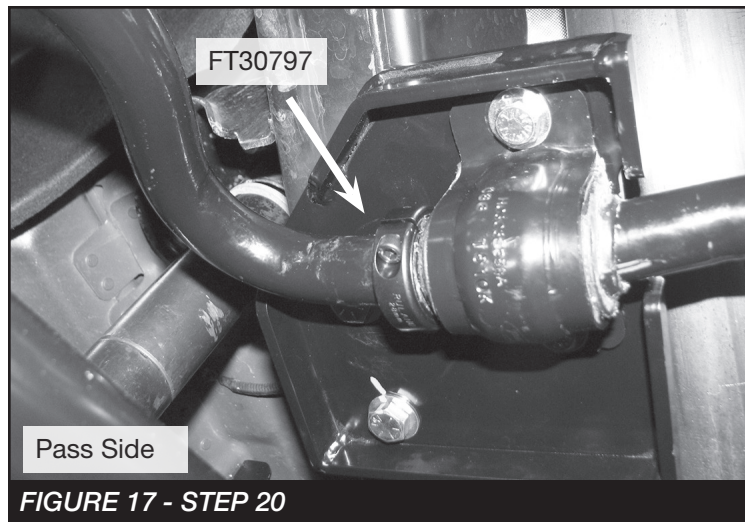

FIGURE 17 - STEP 20
20. Install the factory sway bar to the new brackets using the supplied 7/16" hardware. **NOTE: The bushing and mount may need to be moved slightly to line the sway bar up centered to the vehicle. SEE FIGURES 16.** Install FT30797 (clamp) on the passenger side of the sway bar up against the factory bushing to prevent movement. **SEE FIGURE 17**